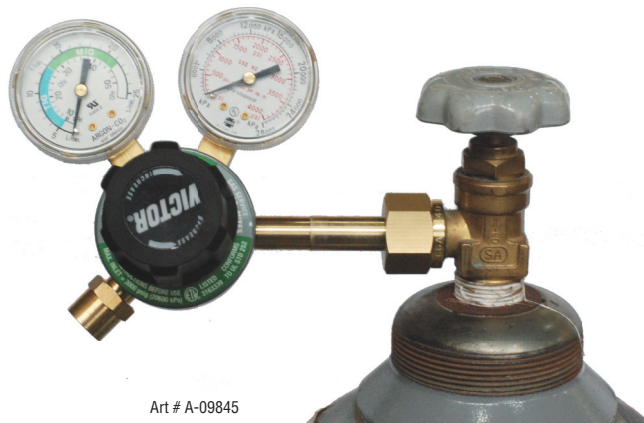

Figure 3-4: Regulator to Cylinder Valve
6. Carefully inspect the regulator for damaged threads, dirt, dust, grease, oil, or other flammable substances. Remove dust and dirt with a clean cloth. Be sure the inlet swivel filter is clean and in place. Attach the regulator (Figure 3-4) to the cylinder valve. Tighten securely with a wrench.